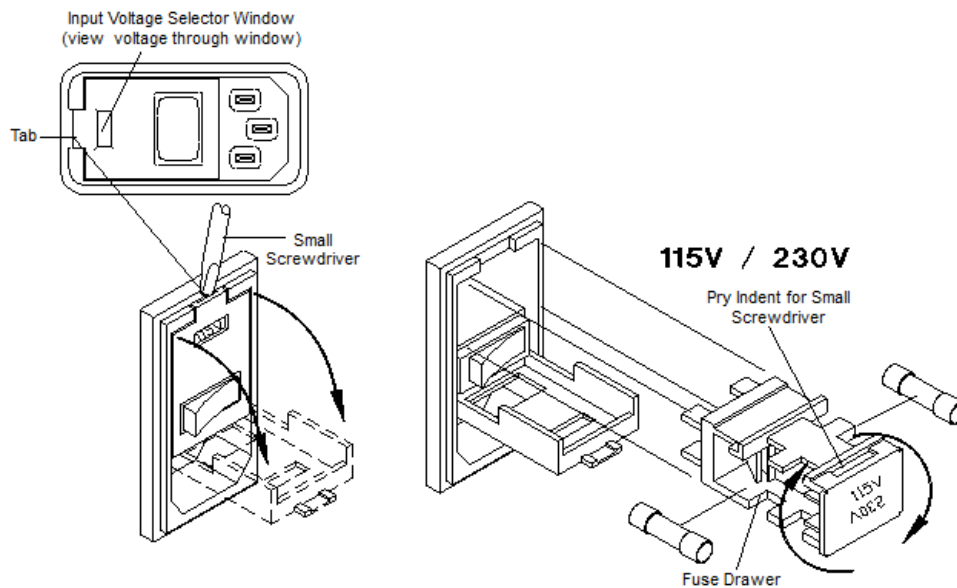

Figure 3-3A. Voltage Selector/Fuse Drawer (086xx055)
2. Carefully open the input voltage selector compartment cover by prying up on the tab with a small screwdriver (see Figure 3-3A).
4. **If the control will be connected to 115VAC**, rotate the drawer so that 115V will show through the door opening. **If the control will be connected to 230VAC**, rotate the drawer to the 230V position (see Figure 3-3A).